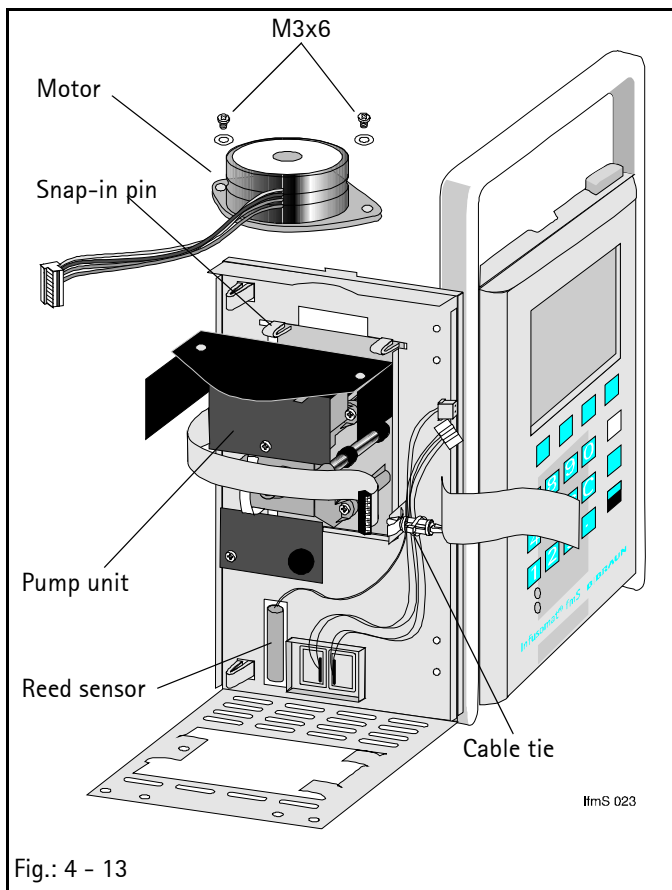

Fig.: 4 - 13
5. Press Reed sensor out of holder on the rear side, see Fig.: 4 - 13.